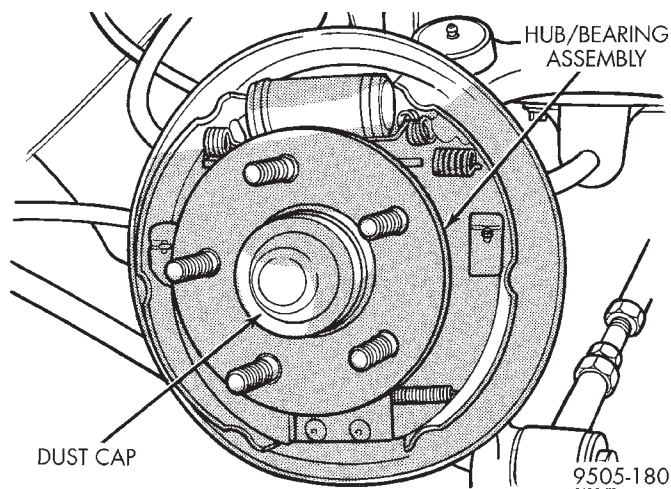

Fig. 75 Hub And Bearing Dust Cap
(1) Raise vehicle on jackstands or centered on a hoist. See Hoisting in the Lubrication and Maintenance section of this manual.
(2) Remove rear tire and wheel assembly from vehicle.
(3) Remove the dust cap from the rear hub and bearing assembly (Fig. 75).